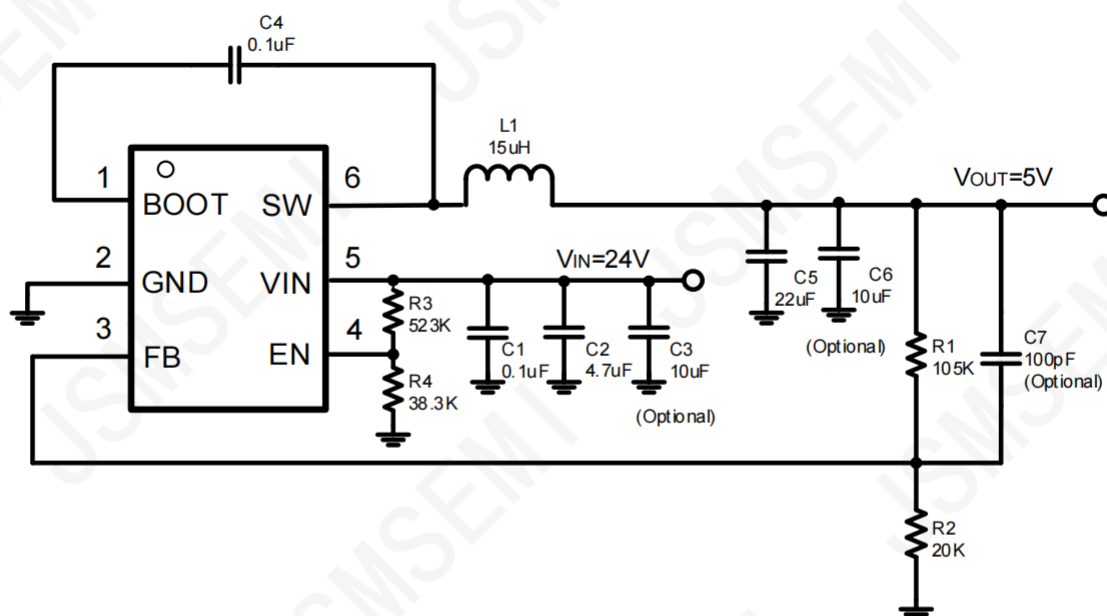

Figure 9. 24V Input, 5V/1A Output
The LV2842XLVDDCR output voltage can be easily set up using a resistor divider network R1 and R2 as shown in the typical application circuit Figure 9. Use Equation (4) to calculate the resistor divider values.
Figure 10 through Figure 25 apply to the circuit of Figure 9.  $V_{IN} = 24\text{ V}$ ,  $T_A = 25^\circ\text{C}$  unless otherwise specified